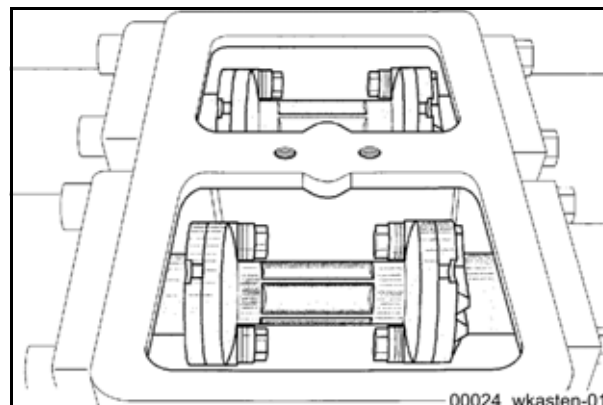

Fig. 325
- Move the piston to just in front of the rear end position. The distance piece (**Fig. 325**) must be fully visible in the water box.